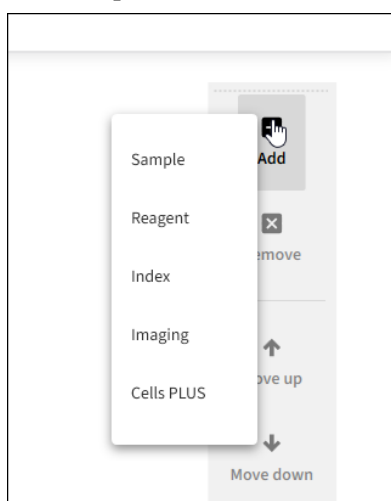

Figure 36. Selecting a step from the experiment detail section of the *App details* page.
2. A pop-up box will display, prompting you to choose the step-type to add (Figure 36). Click on the desired option from the list.